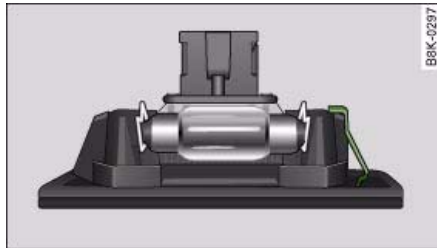

Fig. 262 Number plate
- First insert the side with the retaining element ⇒ *fig. 262*